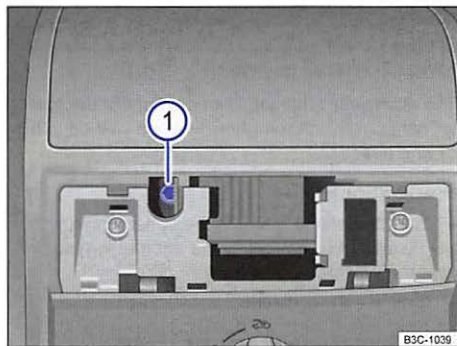

Fig. 151 Hexagonal head screw for closing the power sunroof.
- Insert a commercially available 1/6 in (4 mm) Allen wrench¹⁾ into the hexagonal head screw $\Rightarrow$ fig. 151 ①.